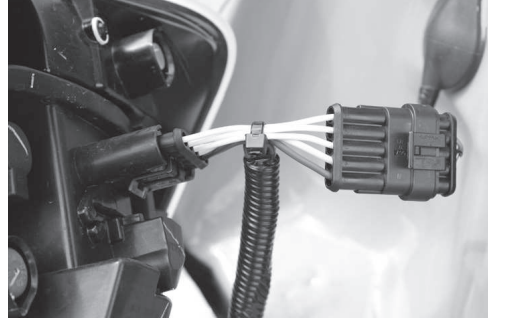

Figure 3
4. Starting on driver's side position RV harness connector ends containing Yellow wires between separated vehicle harness connectors shown in **Figure 3**. Press connectors firmly into vehicle connectors until they lock into place. Pull on connectors to ensure locks are engaged.